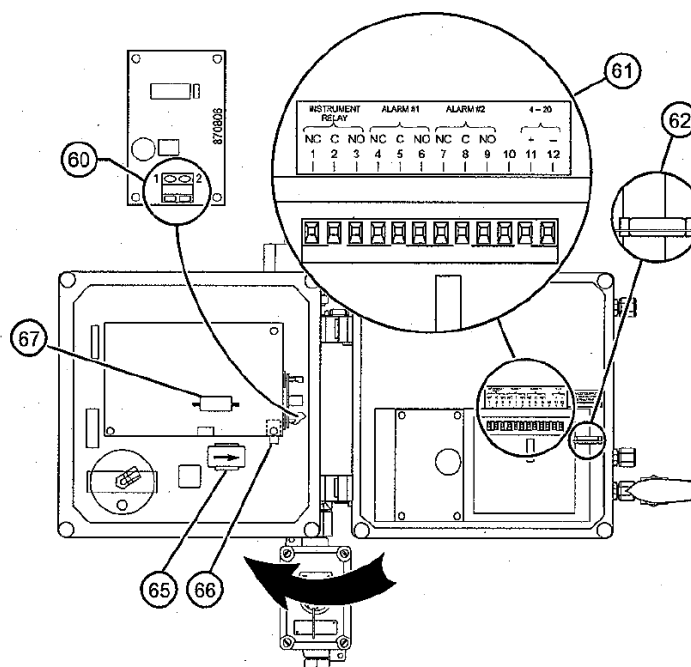

Figure 2
- B. The cover (29) and the collar (30) must always remain connected to each other.
- C. During disassembly and reassembly, the connection between the cover (29) and the collar (30) must be secured by at least three cover screws (20).
- D. To open the hinged collar (30) from the SPM body (31), you must remove the collar fixing screws (22) are mounted behind the cover screws (20.)
- E. In order to reach each collar fixing screw (22), you must temporarily remove the cover screw (20) and the retaining ring (21).
- F. After removing each collar fixing screw (22) and retaining ring (21), replace each cover screw (20) in order to keep the collar (30) and the cover (29) securely connected.
- G. To replace the cover (29), follow these same guidelines to install the collar fixing screws (22) and reassemble the enclosure. Make sure that the cover (29) and collar (30) stay connected throughout the entire procedure and that the connection is always secured with at least three cover screws (20). Check all wiring harnesses and tubing lines to make sure they are not pinched when the door is closed.
2. Open unit. Filters are located inside center area of cover/collar, below and partially behind printed circuit board (PCB). See Figure 2 below.
7. Remove acid scrubber filter, mounted vertically. The acid scrubber filter (66) is shown in Figure 2 below. Replace with new filter (P/N 780248).
8. Remove particulate filter (65). Refer to Figure 2 below. Replace with new filter (P/N 780248).
9. Remove filter assembly (65). Refer to Figure 2 below, if installed. Replace with new filter (P/N 871134).